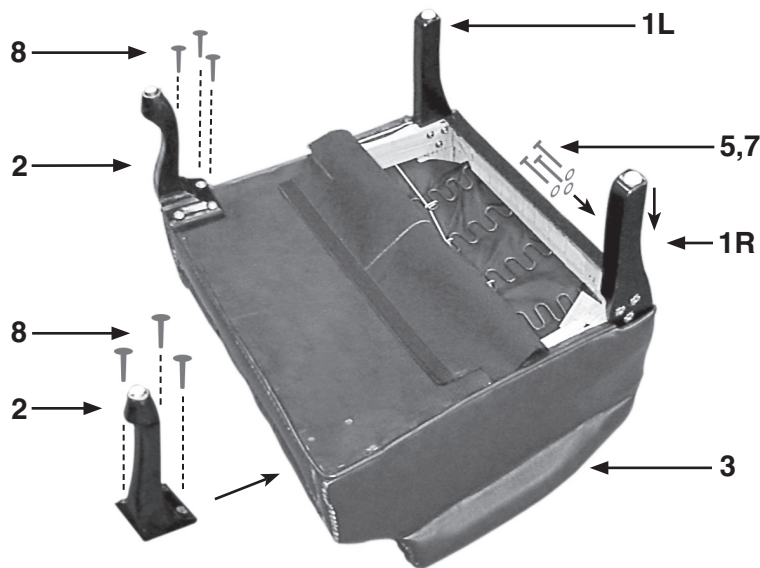

Fig. 1
STEP 2 Attach Front Legs (2) to front underside of Seat Cushion (3), using six Short Screws (8). (See Fig.1)
STEP 3 Peel back black fabric from bottom rear of Seat Cushion (3). Insert Rear Legs (1) between vinyl and frame, and attach using six Medium Screws (5), and six Washers (large hole) (7). (See Fig. 1 & 3) When finished reattach black fabric.